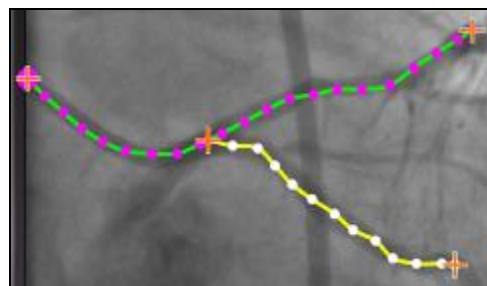

Figure 236. Completed branch displays in selected mode
- ② Notice the trunks are now in the unselected mode, as evident by the green and purple (magenta) colors. The focus has changed to the branch you are about to draw.
Step 3 (Figure 235 and Figure 236)
i **Note:** When you complete the drawing by double-clicking the distal point, the branch displays in the selected mode (yellow and white) (**Figure 236**).